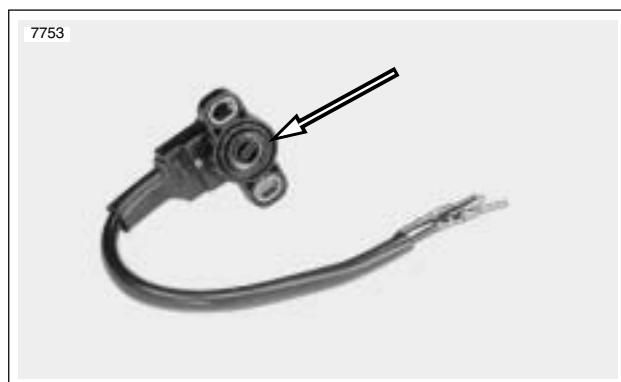

Figure 4-21. Throttle Position Sensor with O-ring
1. See Figure 4-21. Obtain **new** throttle position sensor. If old sensor is used, inspect o-ring for cuts, tears or signs of deterioration. Replace o-ring if necessary.